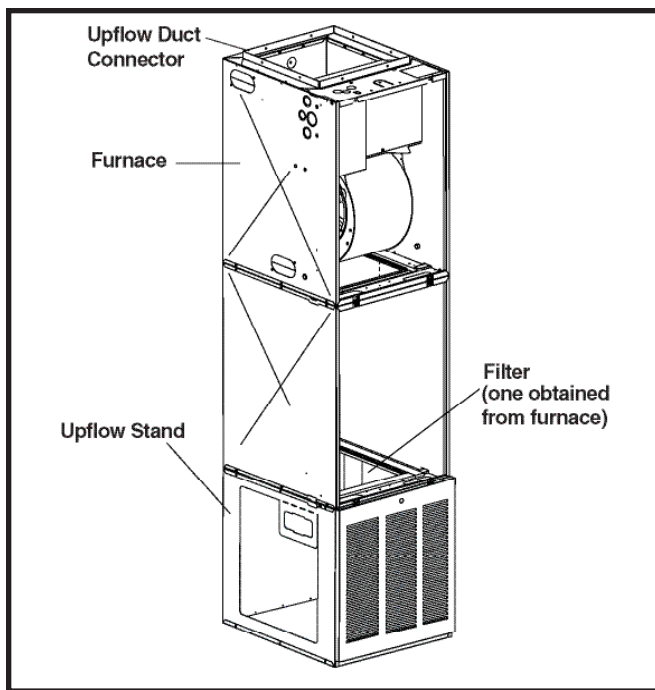

Figure 15. Over-the-Floor Return Air System with Upflow Stand
1. If floor underneath furnace is made of combustible material, locate a pan fabricated of non-combustible material with 1" upturned flanges under furnace return air opening. See Figure 15.
7. Install return air grille in closet preferably at same level as upflow stand or below mounting platform. See Figure 15.